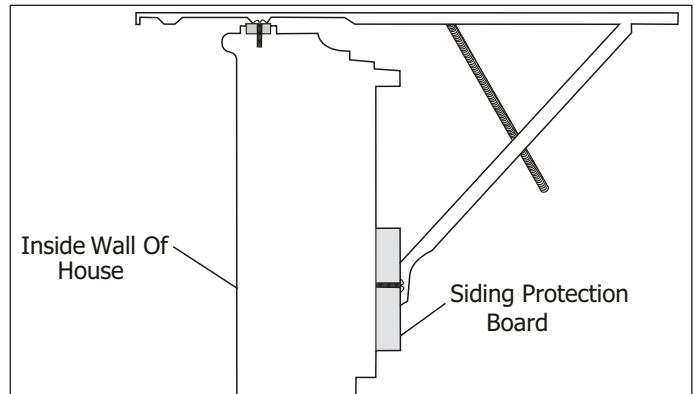

Figure 2-40.
5. Securely attach a siding-protection board to side of house. (See Figure 2-40)